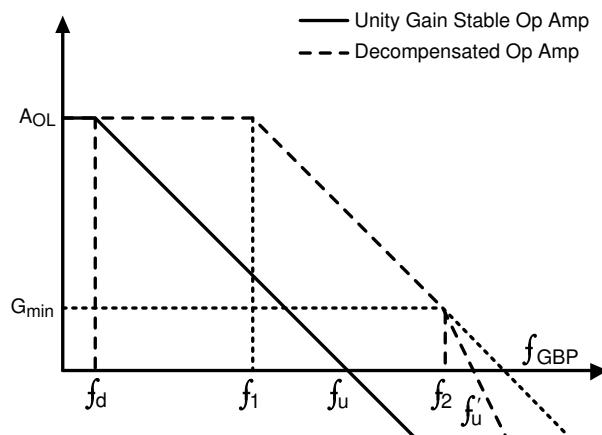

图 8-5. Gain vs Frequency Characteristics for a Unity-Gain Stable Op Amp and a Decompensated Op Amp
As shown in 图 8-5, the dominant pole f_d is moved to the frequency f_1 in the case of a decompensated op amp. The solid A_{OL} plot is the open-loop gain plot of a traditional unity-gain stable op amp. The change in internal compensation in a decompensated amp such as the OPAx607-Q1, increase the bandwidth for the same amount of power. That is, the decompensated op amp has an increased bandwidth to power ratio when compared to a unity-gain stable op amp of equivalent architecture. Besides the advantages in the above mentioned parameters, an increased slew rate and a better distortion (HD2 and HD3) value is achieved because of the higher available loop-gain, compared to its unity-gain counterpart. The most important factor to consider is ensuring that the op amp is in a noise gain (NG) greater than G_{min} . A value of NG lower than G_{min} results in instability, as shown in 图 8-5, because the $1/\beta$ curve intersects the A_{OL} curve at 40 dB/decade. This method of analyzing stability is called the *rate of closure method*. See the precision lab training videos from TI for a better understanding on device stability and for different techniques of ensuring stability.